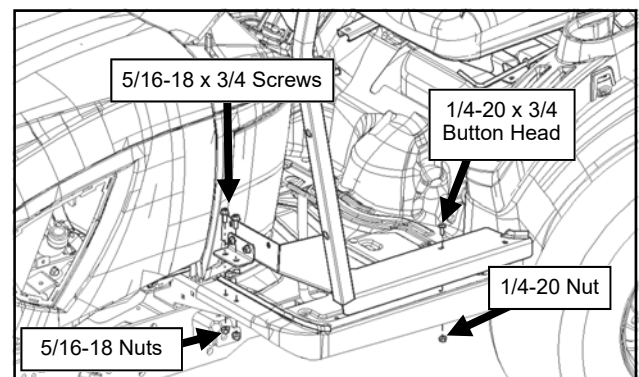

Fig. 3.3 (Assemble A-Pillar to Floor Board)
- 3.3** With assistance, set the left A-pillar onto the floor board and loosely bolt it down. See figure 3.3. Tighten the bolt snug enough to stabilize the A-Pillar, but the bolts will be fully tightened at a later step once the rest of the cab has been assembled.